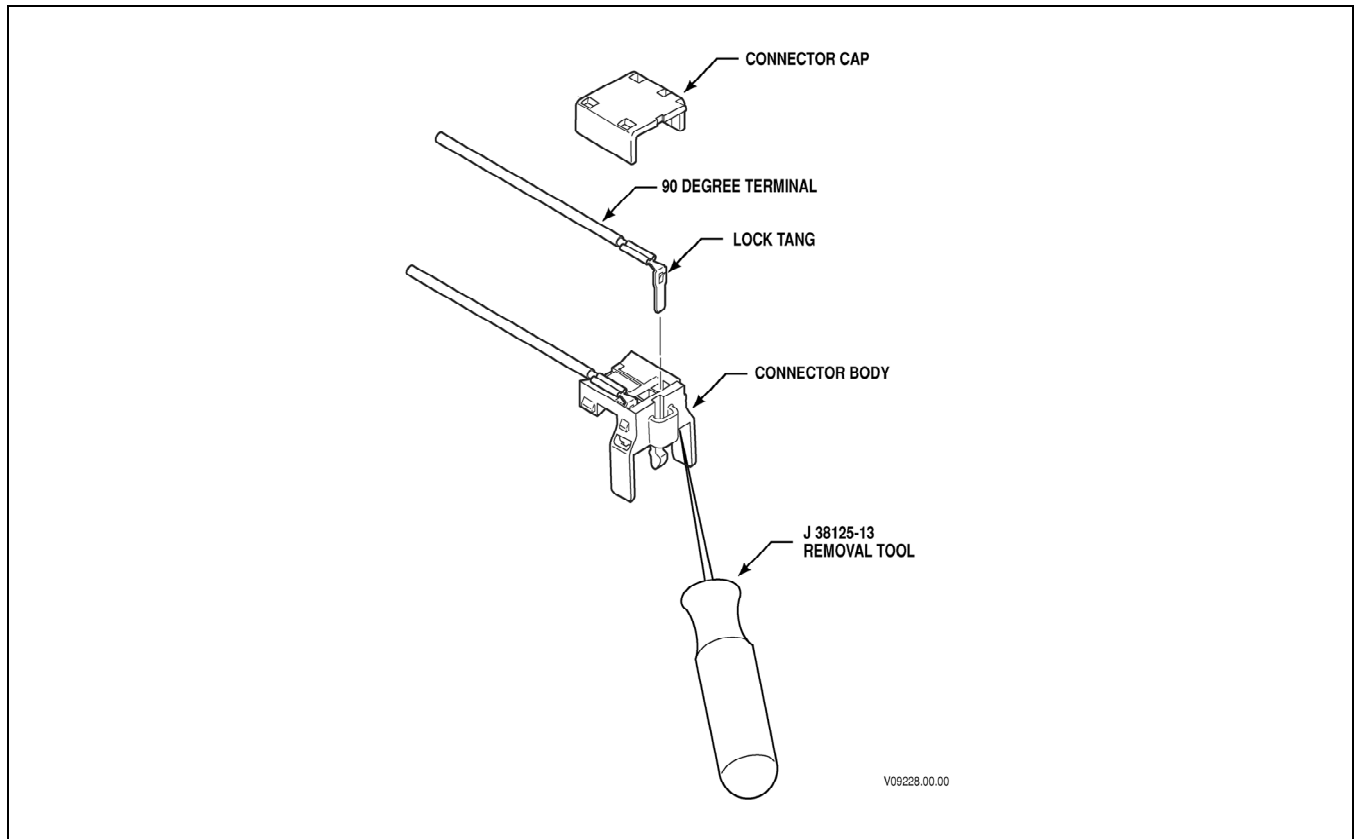

Figure G-24. AFL Automotive 2-Way, 90 Degree Solenoid Connector
1. Separate the 2-way connector from the solenoid (Figure G-24).